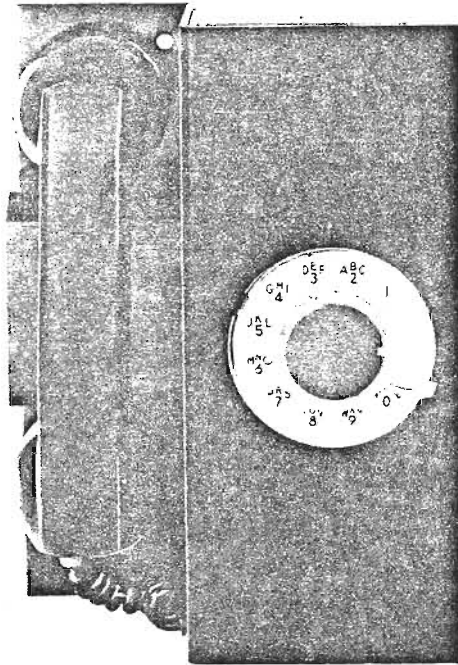

Fig. 2 — 522-Type Telephone Set (Front View)
2.07 The 522-type telephone sets (Fig. 2) are flush mounted wall type sets intended for use in elevators but may be used in corridors and building entrances.